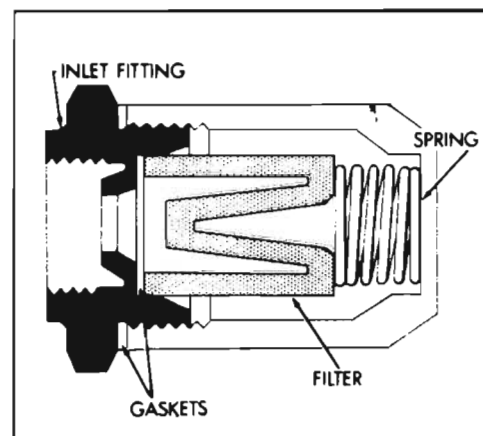

Figure 3-69—Fuel Inlet Filter
11. Install 2 gaskets and filter element in fuel inlet nut. Install filter relief spring in air horn. Install nut and assembled parts into air horn. See Figure 3-69.